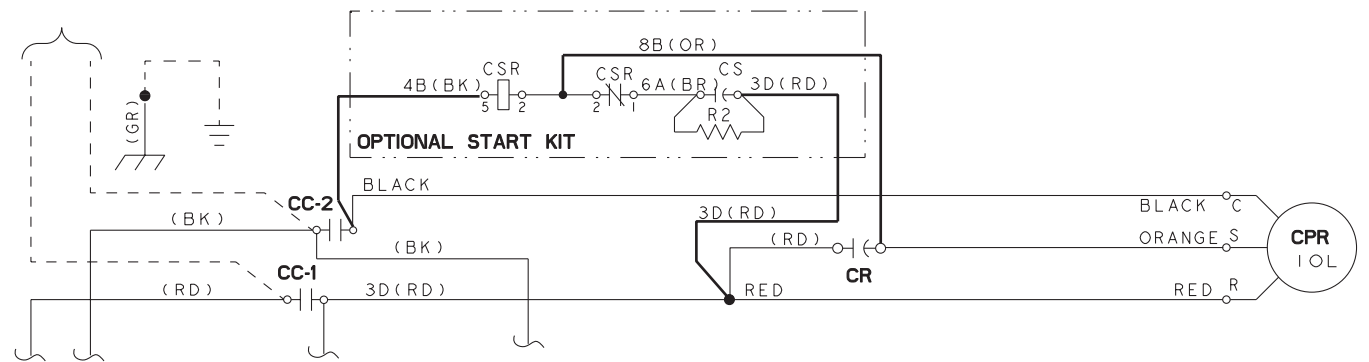

Figure 4. Wiring Diagram for Single Capacitor Models
- Use the wiring diagram in Figure 4 for Single capacitor models.